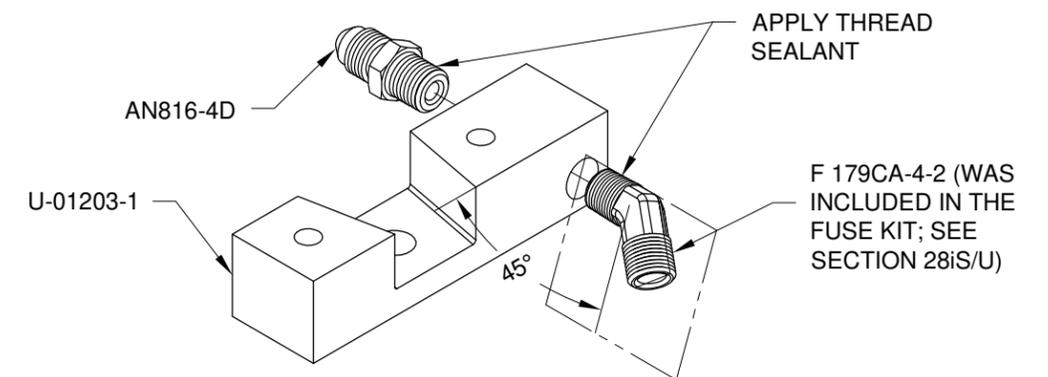

FIGURE 4: INBOARD MAIN GEAR ATTACH BRACKET FITTINGS
Step 10: Apply a small amount of pipe thread sealant to the threads of the fluid fittings and install into the U-01203-1 Inboard Main Gear Attach Brackets as shown in Figure 4.